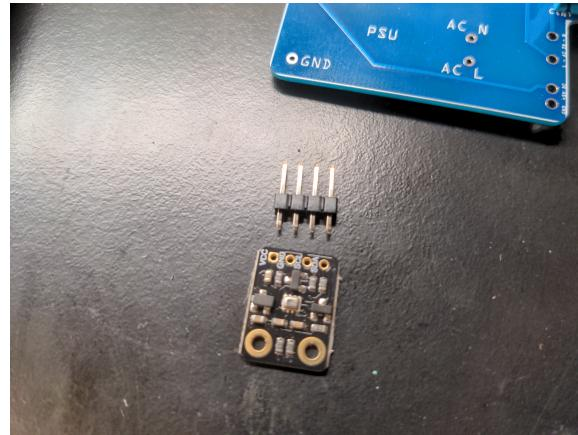

Figure 6: BME needs to have headers attached
5. Solder the headers onto the BME board (figures 6 and 7)